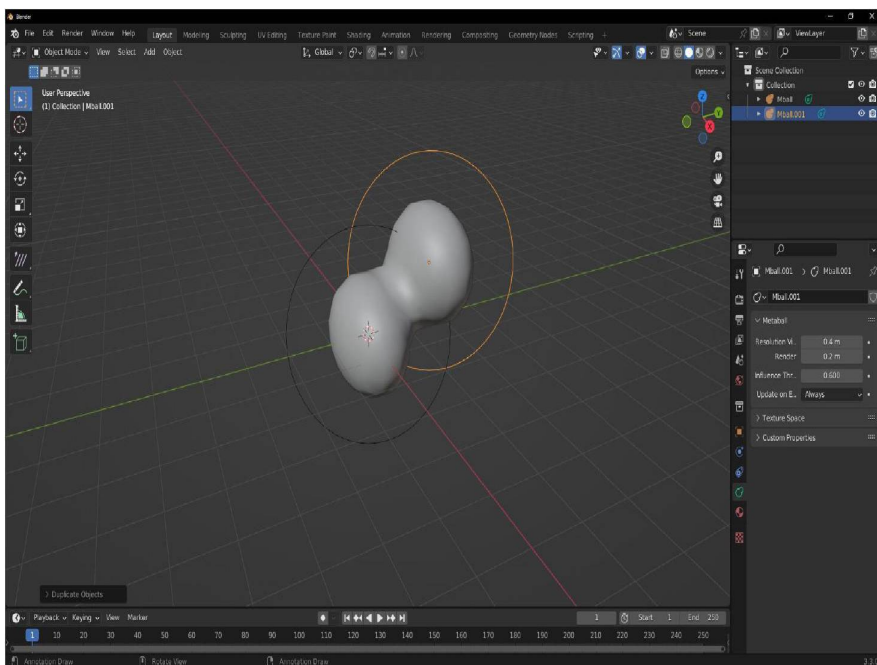

Figure 9.18: Two Metaballs connected at a short distance
4. Working in **Object Mode**, duplicate the selected **Mball** object by pressing **Shift + D**, then move the duplicate and notice how the two are connected like lumps of clay until pulled too far apart as shown in *Figure 9.18*: